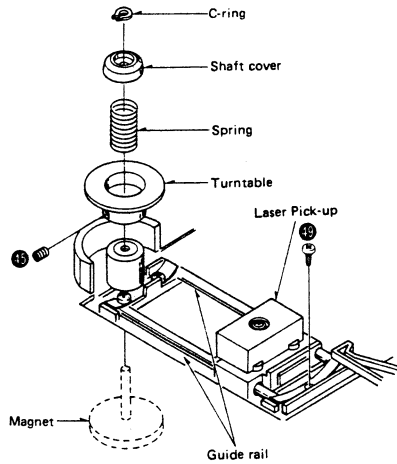

Fig. 15
2. Remove the C ring from the shaft of spindle motor. [Fig. 15]
3. Remove the screw [Fig. 15 : ⑬] by use of a hexagonal wrench. Then the capstan shaft can be removed.
4. Remove the guide rail retainer setscrew [Fig. 15 : ⑱], and pull the laser pickup out of the two guide rails.